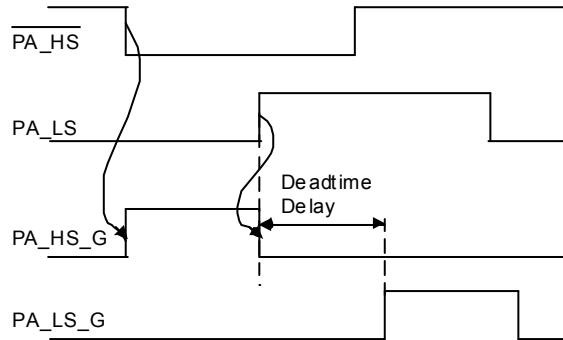

Figure 13. Edge sensitive logic inputs (phase A)
- **Read back of internal registers.** The status of the 33937A status registers can be read back by the Master (DSP or MCU). The Px_HS and Px_LS logic inputs are edge sensitive. This means the leading edge on an input causes the complementary output to immediately turn off and the selected one to turn on after the deadtime delay as illustrated in Figure 13. The deadtime delay timer always starts at the time a FET is commanded off and prevents the complementary FET from being commanded on until after the deadtime has elapsed. Commands to turn on the complementary FET after the deadtime has elapsed are executed immediately without any further delay (see Figure 6 and Figure 13).